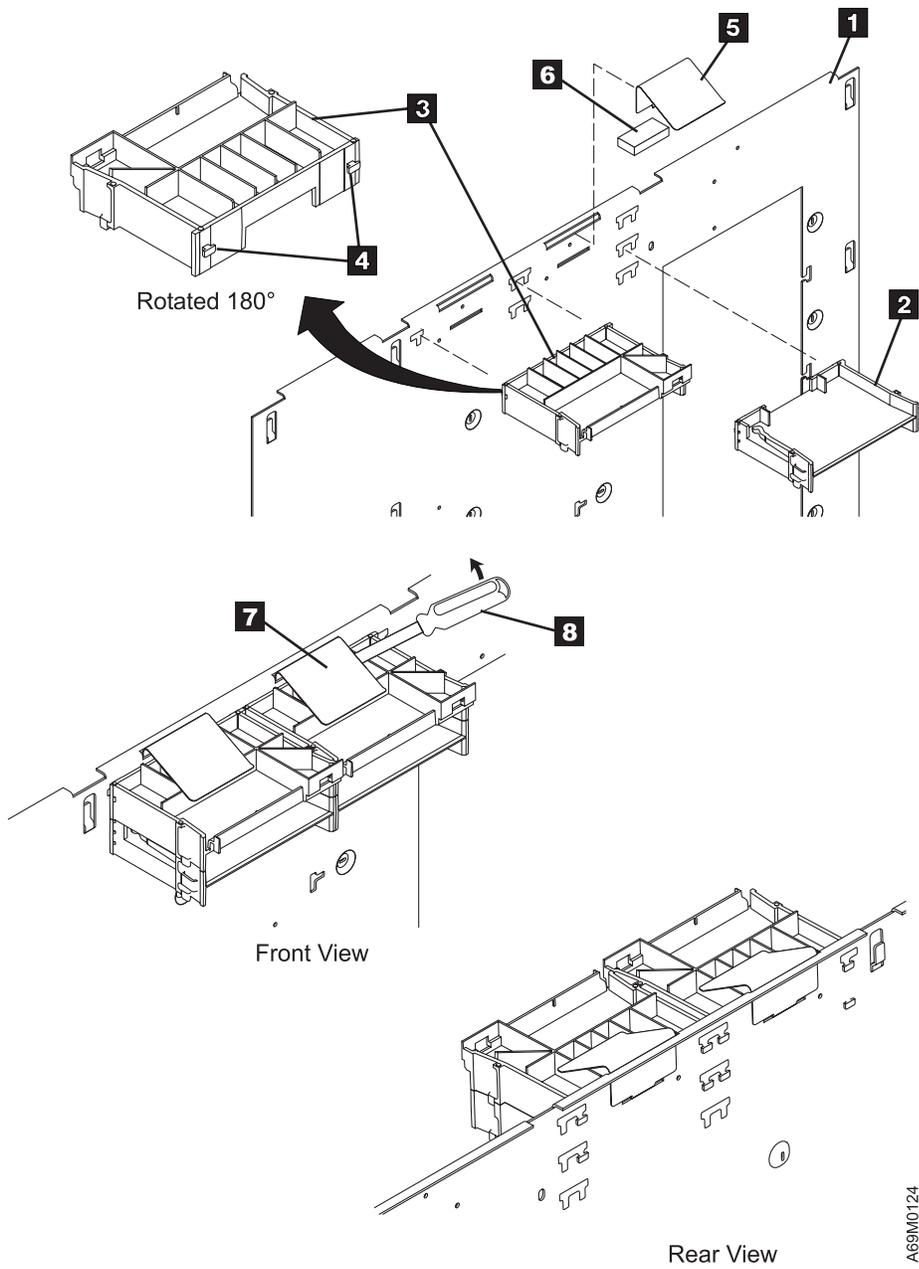

Figure 149. Top Cell Tray and Cartridge Cell Tray
3. Refer to Figure 149 on page 649 for the pictorial of a top cell tray **3** and a cartridge cell tray **2**. Each tray is held in place by two tabs **4** on the rear of each tray and by holes in the rear frame firewall **1**. The spring **5** and the foam pad **6** at the top of the top cell tray applies pressure on the entire cell tray row to keep them in place during normal operation. The portions of Figure 149 on page 649 marked Front View and Rear View show how the spring must be installed to retain tension on the top tray.